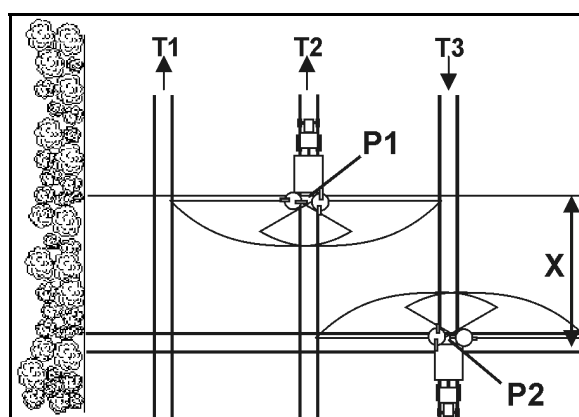

Fig. 67
- Open the slide gate after entering the tramline at point P1 (Fig. 67), when the spreader discs are at distance X from the tramline of the headland.
- Close the slide gate before leaving the tramline at point P2 (Fig. 67), when the spreader discs are located at the level of the first tramline of the headland.